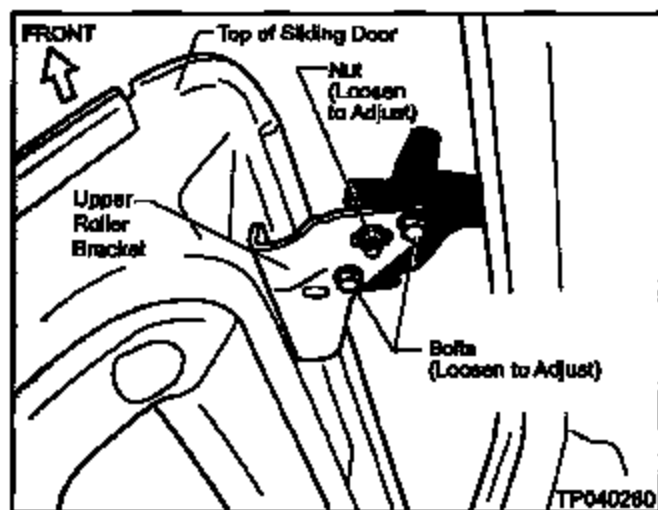

Figure J29
39. Loosen one Nut and two Bolts at the Upper Roller Bracket (see Figure J29).